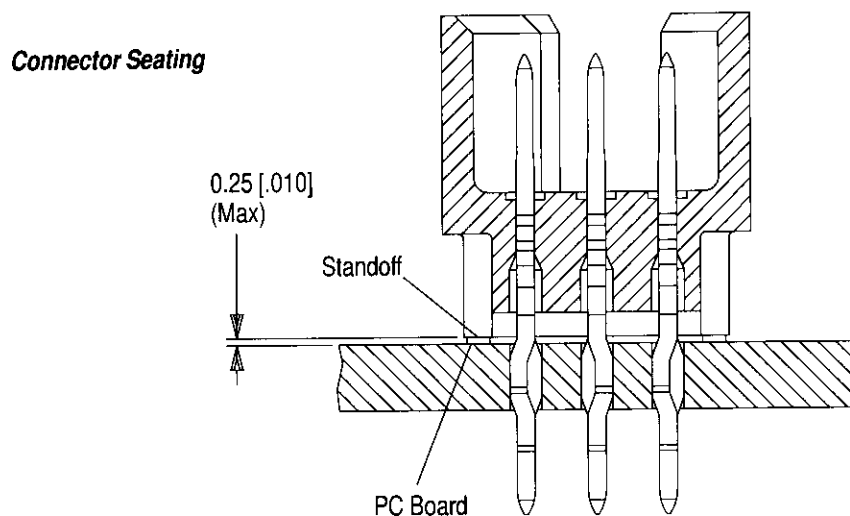

Figure 9
- Modified Figure 9 (connector seating)
Seated connectors must be bottomed on the pc board, measured from the top of the connector standoffs to the pc board, to within the dimension shown in Figure 9.